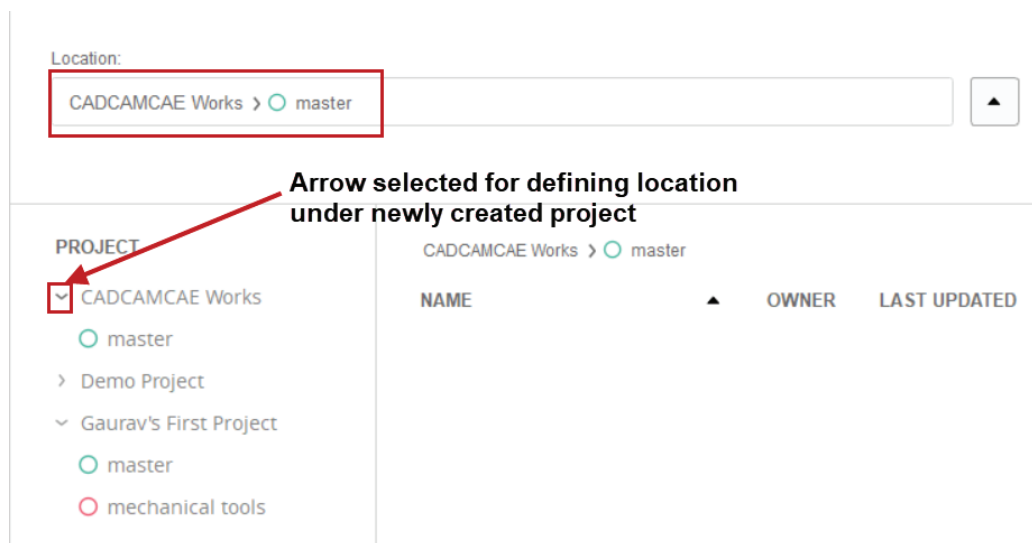

Figure-17. Location selected for saving file
- Click on the arrow displayed before your new project. The master folder will be created automatically under the new project and the location will be selected as save location for your file; refer to Figure-17.